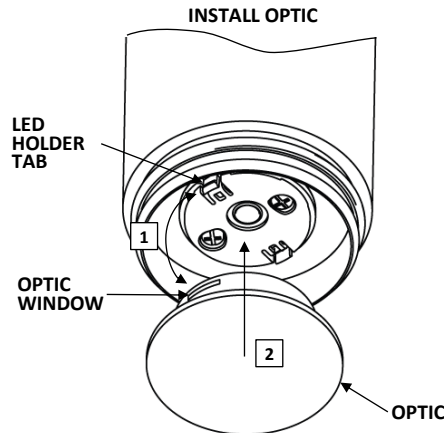

Fig. 1
1. To install. Snap (2) OPTIC WINDOWS on (2) LED HOLDER TABS. Fig.1